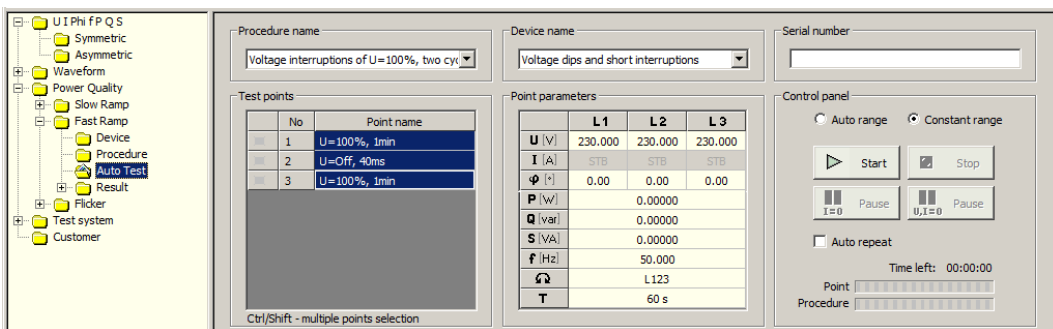

Fig.2.6. Autotest function with finished procedure
- d) wait until procedure is not finished (Fig.2.6).